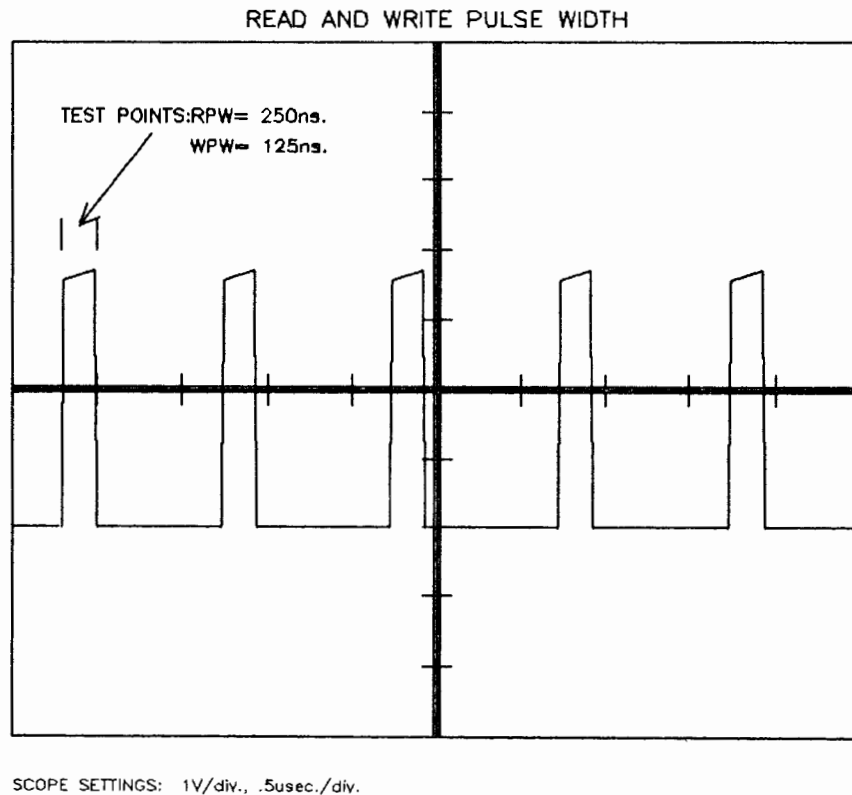

Figure 4-4
3. Observe the waveform pulse-width (see figure 4-4). The pulse width should be 250 ns. $\pm 10\%$.